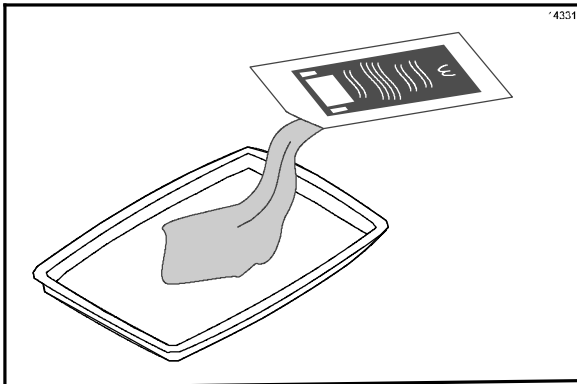

Figure 40
9. Open one packet of **McD Hi-Temp Grill Cleaner (HTGC)**. Empty the contents into a clean entrée base or stainless steel pan. (See Figure 40.)